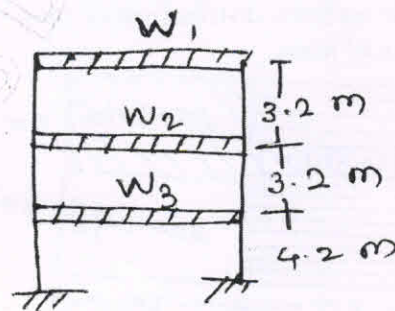

Fig.Q7
- 7 For the residential RCC (SMRF) building founded on soft soil and situated in zone V shown in Fig.Q7. Compute the seismic forces for each storey using dynamic analysis procedure. Given: The free vibration analysis results.